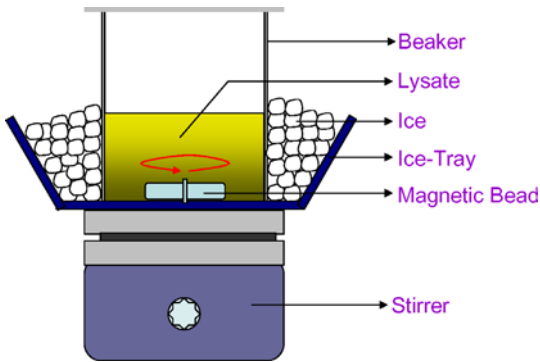

Fig. A.1 Protein Precipitation using ammonium sulfate.
- (1) Clarify the protein solution (in most cases the lysates) by centrifugation.
- (2) Transfer the supernatant into an ice cold beaker with a magnetic bead.
- (3) Note the exact amount of the supernatant (From Table A.1).
- (4) Keep the beaker chilled by placing it in an ice tray.
- (5) Transfer the beaker with the ice tray onto a magnetic stirrer (Fig. A.1).
- (6) Weigh the amount of ammonium sulfate to be added. The amount depends on the volume of the solution and the percentage saturation of the salt needed. Refer to the precipitation chart. In case of protein purification, a step precipitation is carried out.
- (7) Slowly add the ammonium sulphate with stirring. One needs to be careful as the addition of the salt should be very slow. Add a small amount at a time and then allow it to dissolve before further addition.
- (8) Keep it on the stirrer for 1hr precipitation to occur in ice.
- (9) Centrifuge at 10,000g for 15 min at 4°C.
- (10) The pellet contains the precipitated protein which could be dissolved in a suitable buffer for further analysis and purification.
- (11) For a second round of precipitation of a different protein, the supernatant is again used and the above same steps are followed.